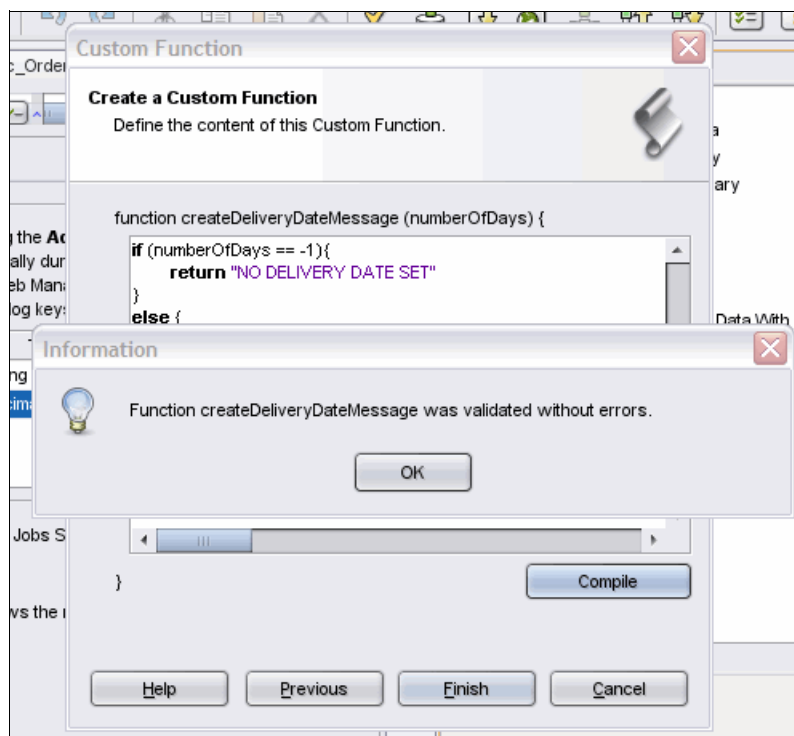

Figure 12-34 Compiling the custom function
4. Click **Compile**. When the success message displays, as shown in Figure 12-34. Click **OK**. Click **Finish**.